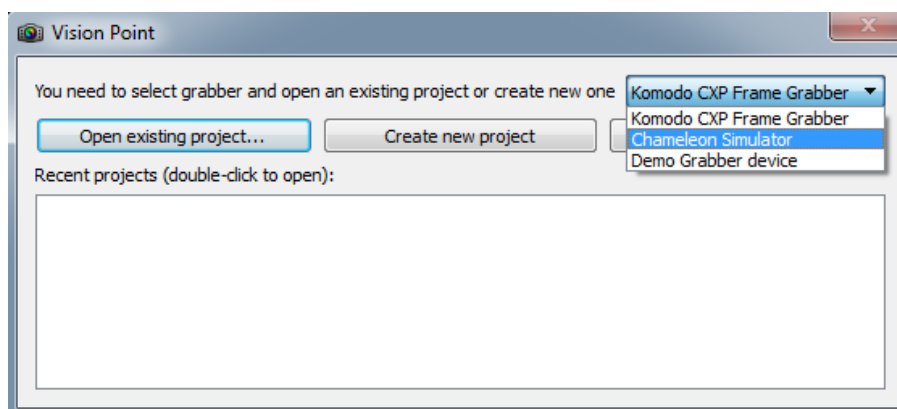

Figure 7 : Vision Point App Start Menu window
- Chose and select the required board from the list, as shown in Figure 7